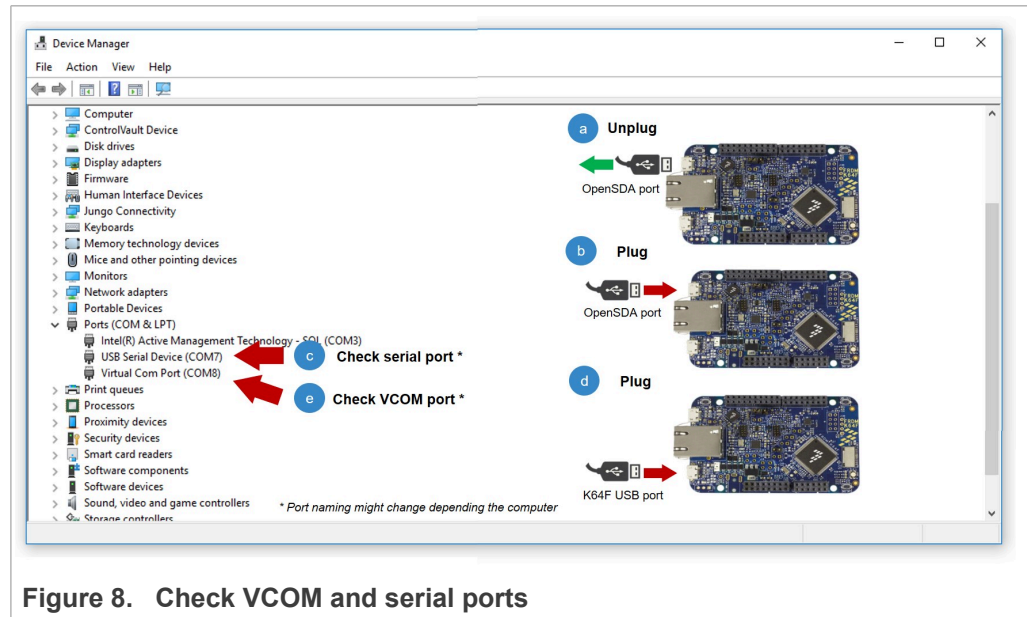

Figure 8. Check VCOM and serial ports
5. The serial and VCOM ports should be recognized by your Device Manager. To check that the ports are recognized, follow the steps indicated in Figure 8: